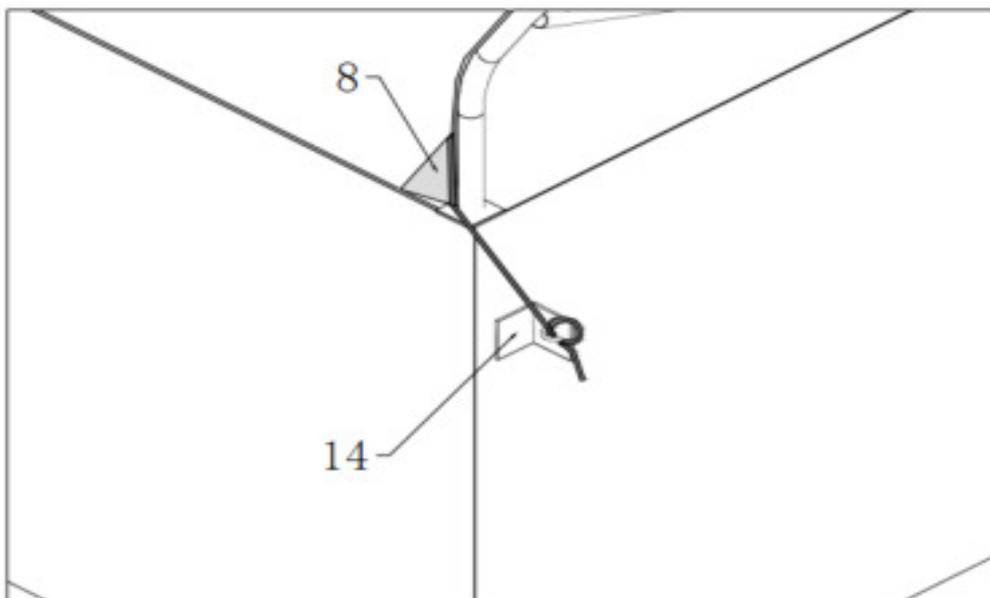

Figure 11
4. As **Figure 11** shown, weld the **Angle seats (part code 14)** on each container and use Ropes (**part code 11**) to knit the cover on the two side arches, finally tie the Roof cover to the Angle seats.